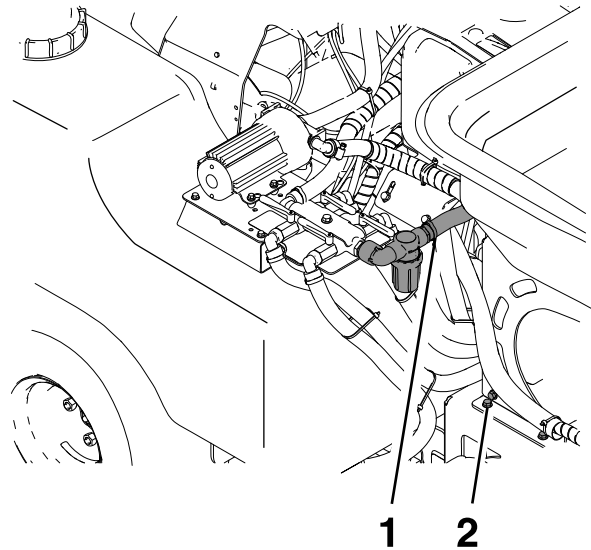

Figure 5
4. Remove the four bolts and nuts on each side of the machine that mount the hopper to the frame (see Figure 5). Remove and retain the hopper assembly.